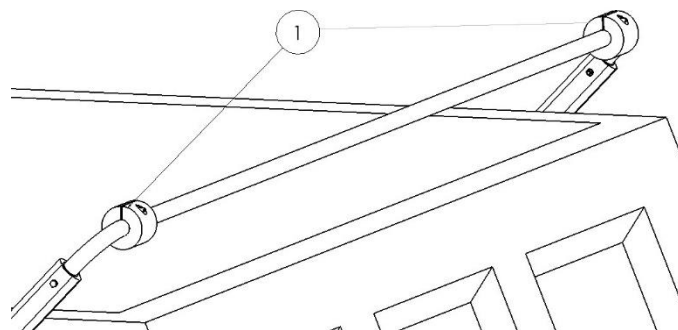

Figure 4.2
Remove the bolt from the centering flanges (1). Open the centering flanges and place them onto the cross tube. Tighten them in place using the previously removed bolt. (Figure 4.2)